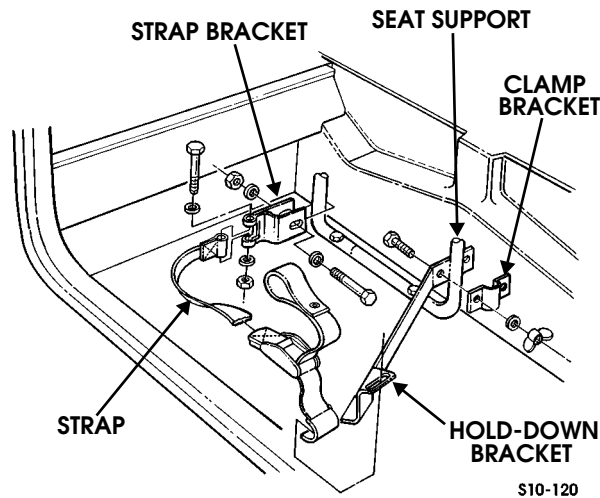

Figure 10-129: Emergency Equipment Hold-Down Bracket Replacement — Four-Passenger Vehicle
2. Remove two wing nuts, washers, screws, clamp bracket, and hold-down bracket from seat support (Figure 10-129).
1. Secure strap to strap bracket with screw, two washers, and nut (Figure 10-129).